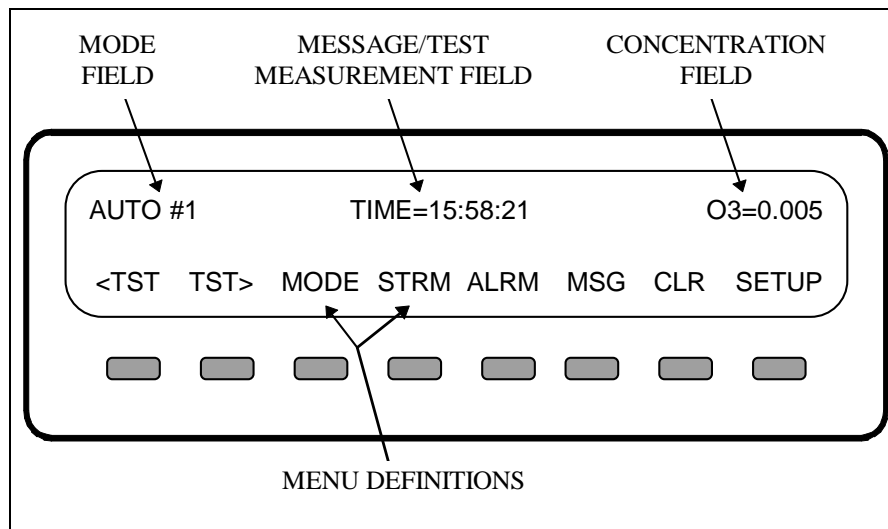

FIGURE 2.1 - MODEL 450 FRONT PANEL
2. Turn on the power by pressing the on/off switch on the front panel (see Figure 2.1). The display should turn on and green (sample) status LED should be energized. The yellow "fault" light may also be on until the flows, temperatures and voltages are within operating limits. Clear the fault messages.
The display is divided into 4 main "fields": the **Mode** field in the upper left, the **Message/Test Function** field in the top center, the ozone **Concentration** field consisting of the most recent instantaneous ozone value field in the upper right, and the **Menu** field which occupies the entire bottom line of the display. The Menu field is used to define the function of the 8 buttons directly below the display. The buttons are then used for selecting menu items and are also used for entering values such as alarm levels. A typical display is shown in Figure 2.1.
that has been sitting in the sample line while that stream was inactive. During the dwell phase the Concentration field on the display (see Figure 2.1) will blink and the instrument will display the last concentration recorded for that stream. After the 30 seconds has elapsed, the concentration field will stop blinking and the current concentration will be displayed. The current stream will now be monitored for the rest of the Monitoring Duration that has been set for that stream (see Section 3.2 for details on configuring the individual streams.) The actual time period that the stream is measured is the Monitoring Duration minus the 30-second dwell. So a 1-minute Monitoring Duration consists of 30 seconds of dwell followed by 30 seconds of measurement.